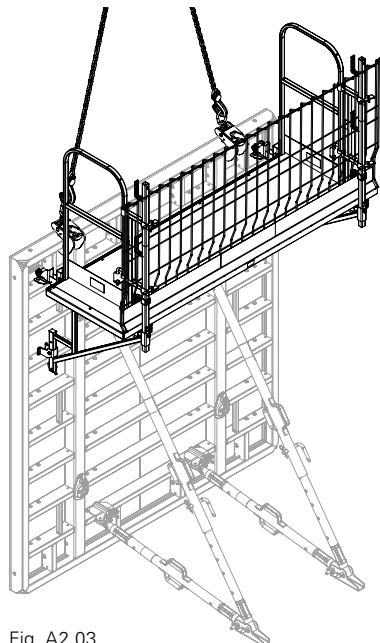

Fig. A2.03
7. Transport panel to place of operation by crane. (Fig. A2.03)